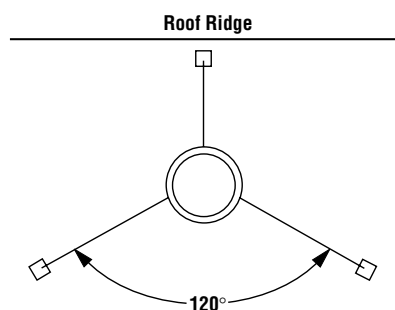

Figure 31
Note: If chimney extends more than 8' above roof surface, guy wires are also recommended. Use three (3) guy wires, attach to locking band assembly, extend and secure to roof in a triangular pattern (Figure 31). Guy wires are not supplied by the manufacturer.